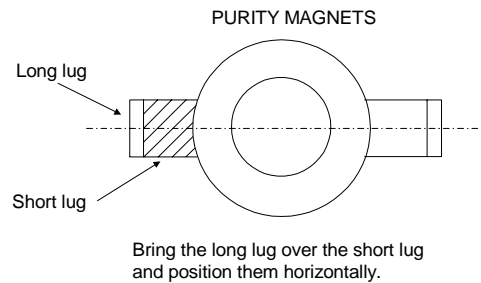

Fig.2
6. Bring the long lug of the purity magnets on the short lug and position them horizontally. (Fig.2)
1. Move the deflection yoke up and down and overlap the lines in the periphery. (Fig. 2)